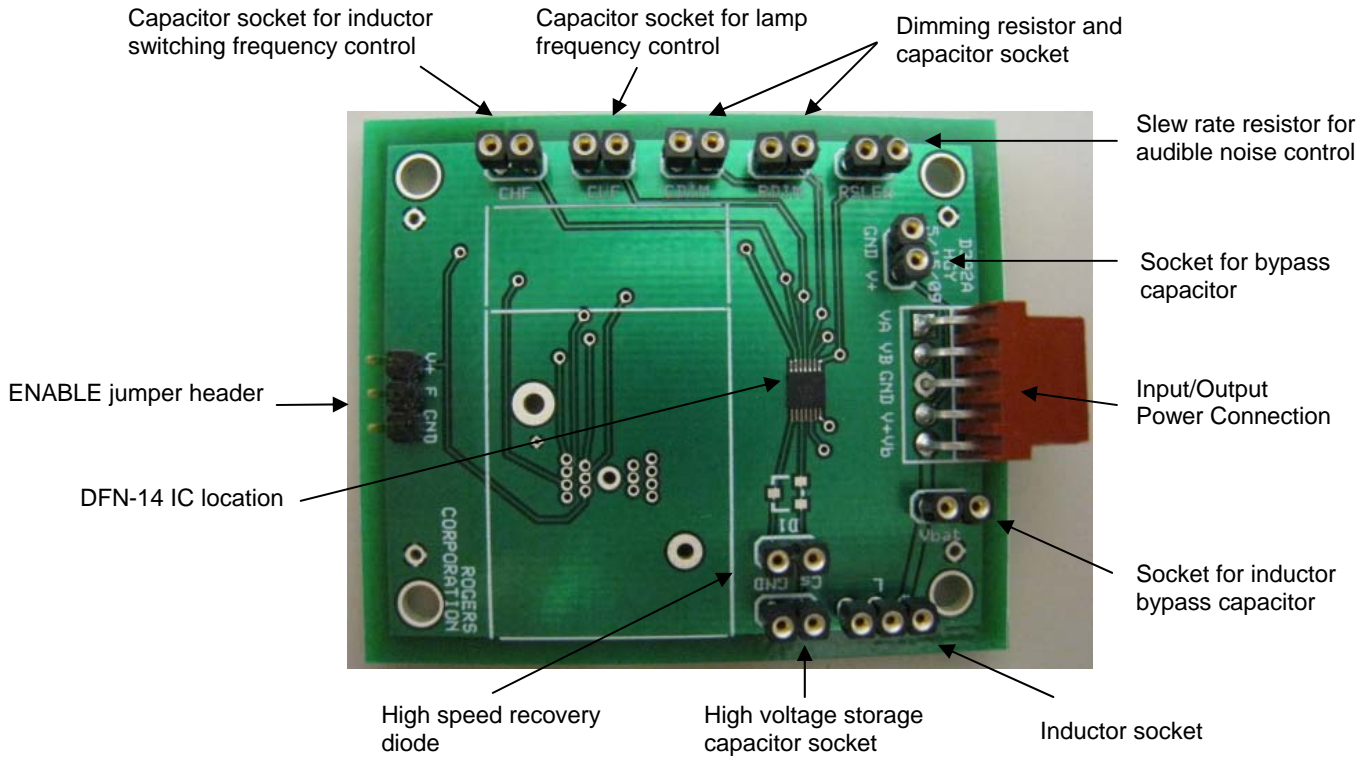

Figure 1 – D392A IC Designer's Kit Board
The Designer’s Kit Board, shown in Figure 1 below, which comes with a D392A IC already soldered to the board, is a useful tool for optimizing a D392A IC driver circuit for any application. Refer to the D392A IC datasheet as a guideline with sample circuits as a starting point of your design. Simply insert an appropriate value of inductor (L) and timing capacitors (CLF and CHF) into the labeled sockets, as shown in Figure 1, to complete your driving circuit. Additional sockets are provided in the Designer’s Kit Board for a bypass capacitor between V+ and ground (GND) to absorb electrical noise in the DC input.